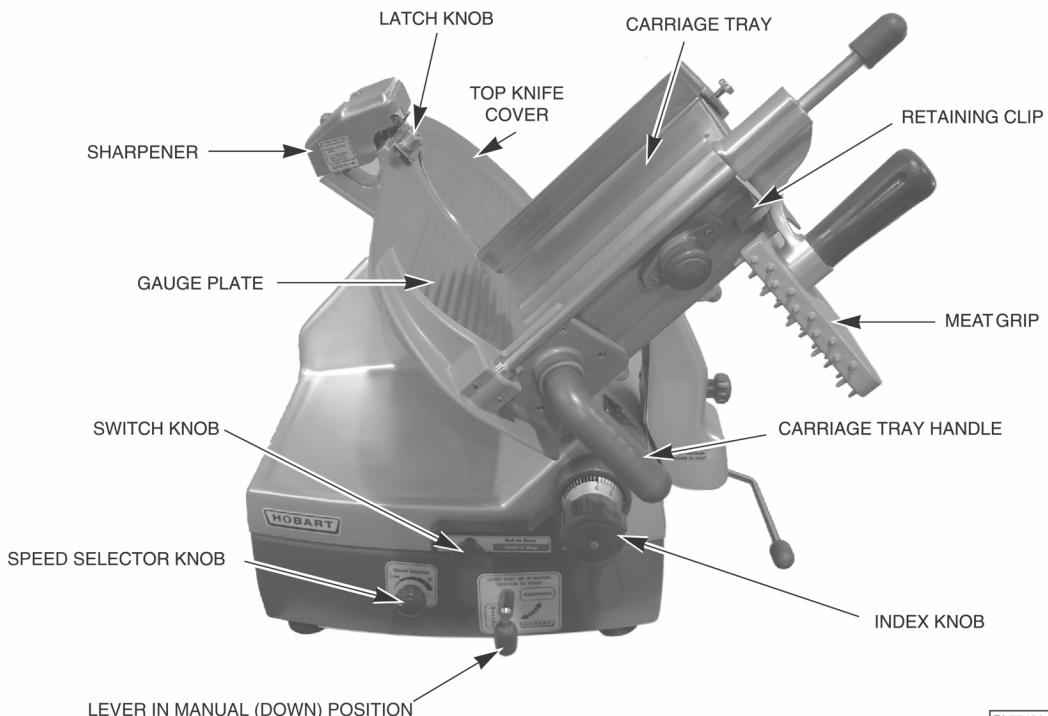

Fig. 3
With the Gauge Plate fully closed, pull the Carriage all the way toward you until it reaches its stop. With the Meat Grip out of the way, place the product to be sliced on the Carriage Tray. Adjust the fence by loosening the thumb screw and sliding the fence so that it is close to the product but not pushing against it. Tighten the thumb screw. Set the Meat Grip against the product. Always make sure the Lever (Fig. 3) is in the Manual position (down) before starting the slicer.
If the Meat Grip is not needed, it may be stored out of the way by sliding it to the top of its travel, rotating it under the Carriage Tray, and allowing it to rest in the Retaining Clip (Fig. 3).
With the Gauge Plate in the closed position, turn the slicer on by pulling the Switch Knob (Fig. 3). Open the Gauge Plate to obtain the desired slice thickness by turning the Index Knob (Fig. 3) and begin slicing. The numbers on the Index Knob do not indicate actual measurements but may be used for reference to duplicate slice thickness. Unless the Gauge Plate is opened and movement introduced to the Carriage within the 10 second auto shutoff period, the machine will turn off.
Use the Carriage Tray Handle (Fig. 3) to push the Carriage back and forth to slice manually.
**To operate the slicer in Automatic mode . . .** Rotate the Speed Selector Knob (Fig. 3) to the desired speed; make sure the Carriage is in HOME position (all the way forward); make sure the Lever (Fig. 3) is on the Manual position (pointing down); make sure the Gauge Plate is in the closed position; turn the slicer on; adjust gauge to desired thickness; start the carriage drive unit by rotating the Lever to the Automatic position (up and to the right).